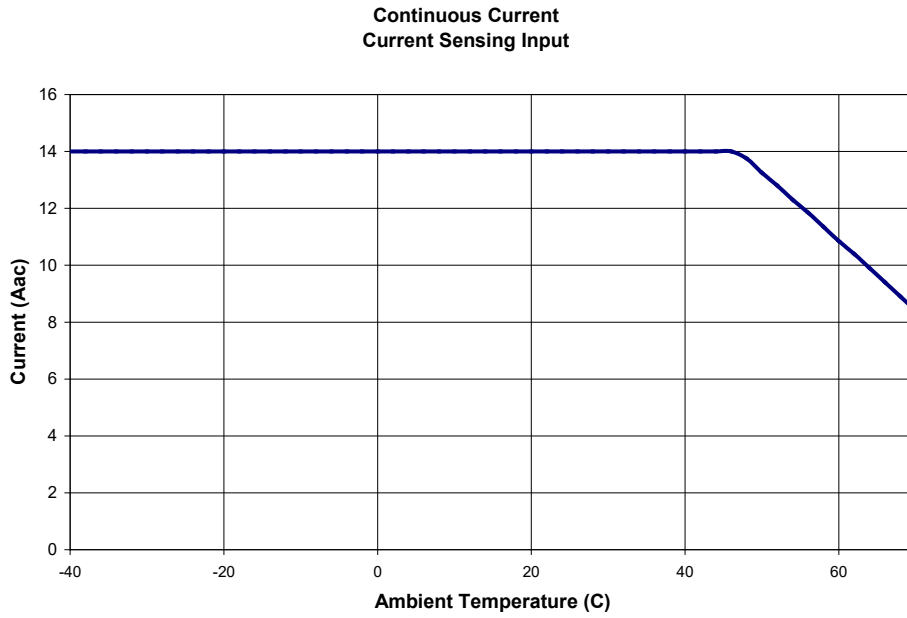

Figure 6-1. Current Sensing Input Derating Curve (BE1-50/51B-230/-239)
* Continuous rating is 14 Aac for temperatures up to 45°C. See Figure 6-1 for derating curve.